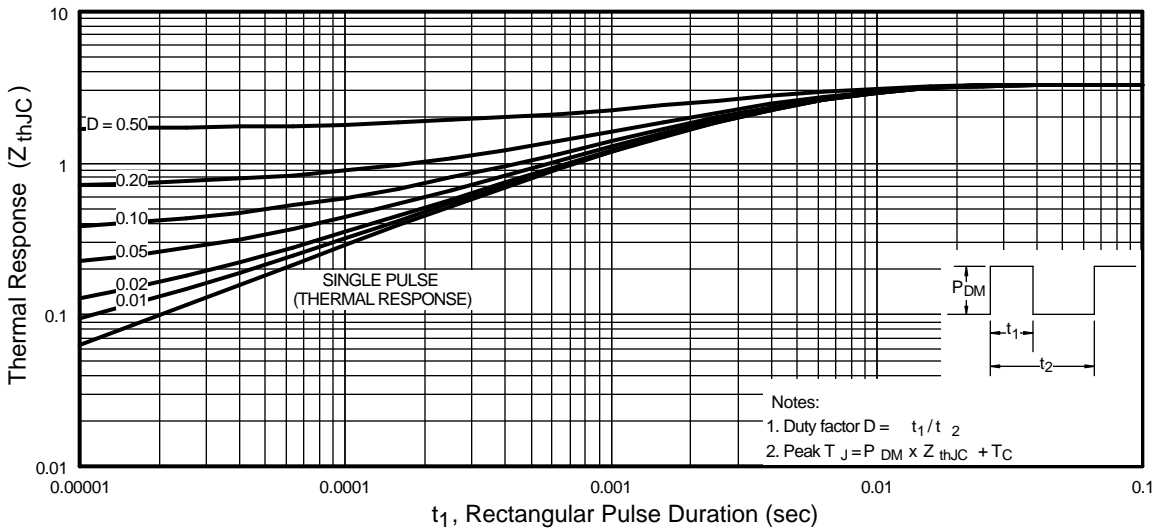

Fig 11. Maximum Effective Transient Thermal Impedance, Junction-to-Case
- ① Repetitive rating; pulse width limited by max. junction temperature. (See fig. 11)
- ② Starting $T_J = 25^\circ\text{C}, L = 2.8\text{mH}$